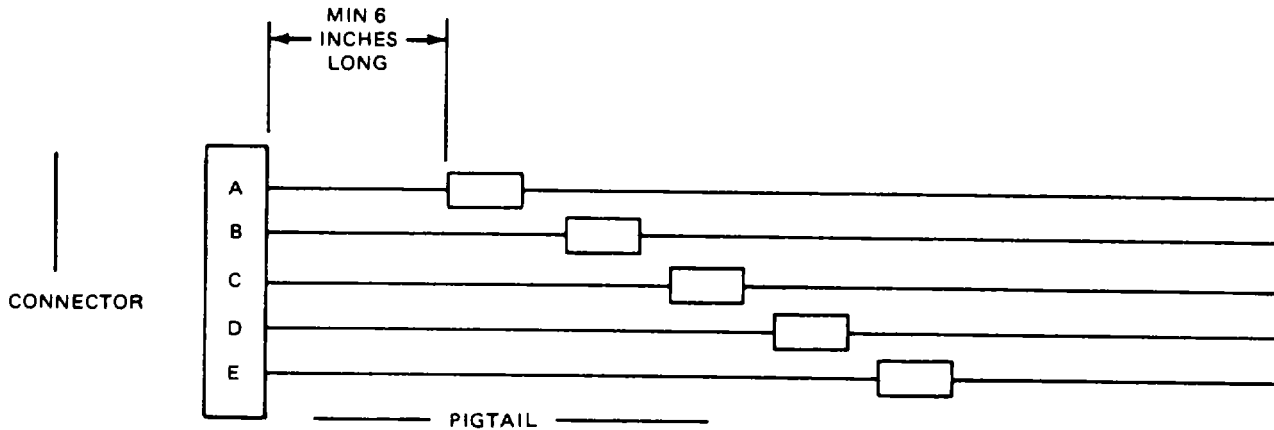

**Figure 7-3. Wire Bundle Repair of Wiring Harness.**
(1) Option 1: Wire bundle repairs.
- (d) Repeat these steps as often as necessary to repair the wire bundle without cutting or breaking the tape until the repair has been completed (figure 7-3).